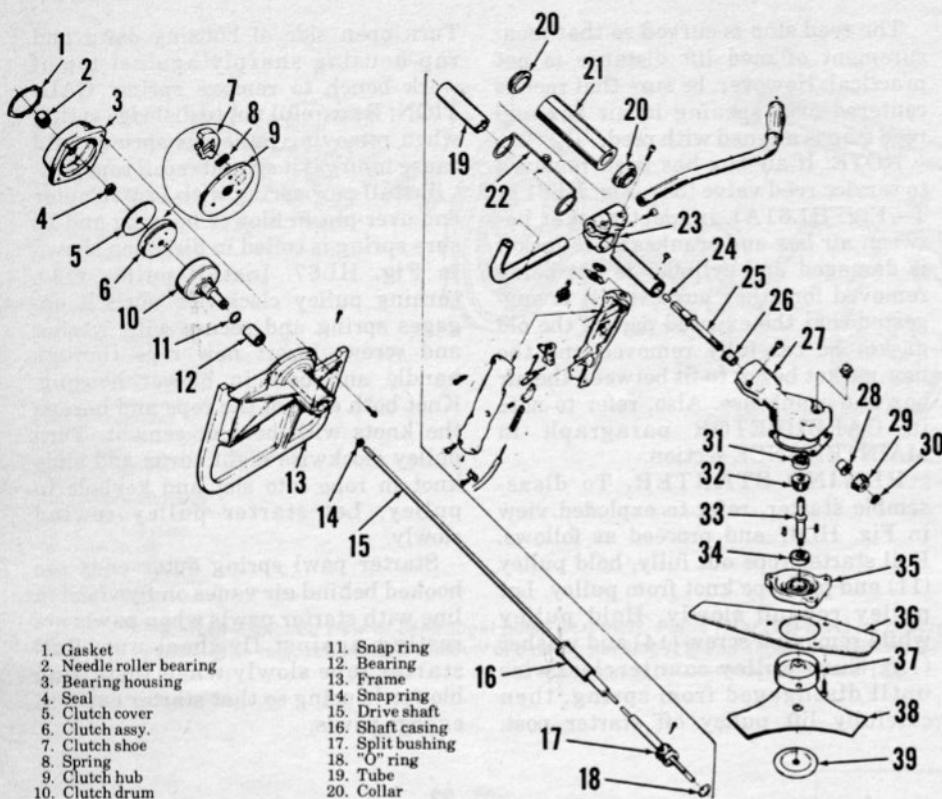

Fig. HL72—Exploded view of late model brushcutter assembly used on XL series.
On later models, unscrew capscrews securing frame (13—Fig. HL72) to bearing housing (3) and separate brushcutting unit from engine. Remove snap ring (11) and clutch drum (10). Rotate clutch hub in counter-clockwise direction to remove clutch assembly. Bearing housing can now be removed from engine as previously outlined. To remove nut (39) from blade shaft, insert a ¼ inch steel rod in hole in spindle head (27) to prevent shaft from turning.